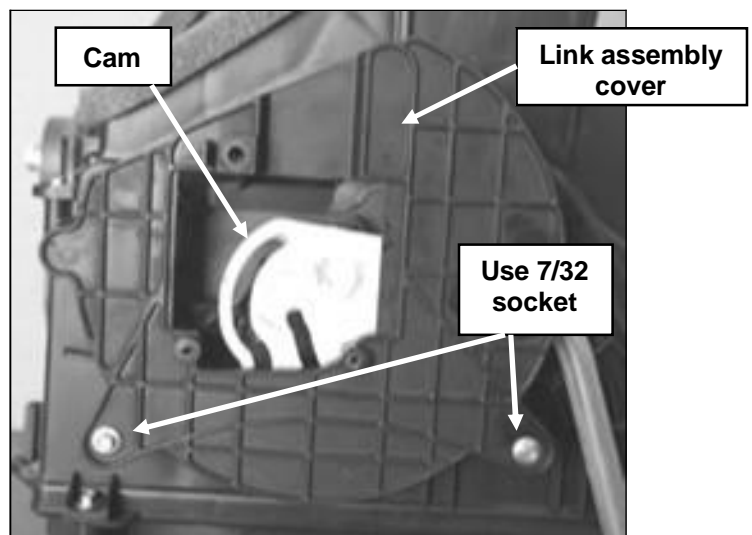

Figure 8
14. Using a 7/32 socket, remove the 2 link assembly cover bolts shown in Figure 8, and then remove the cover.